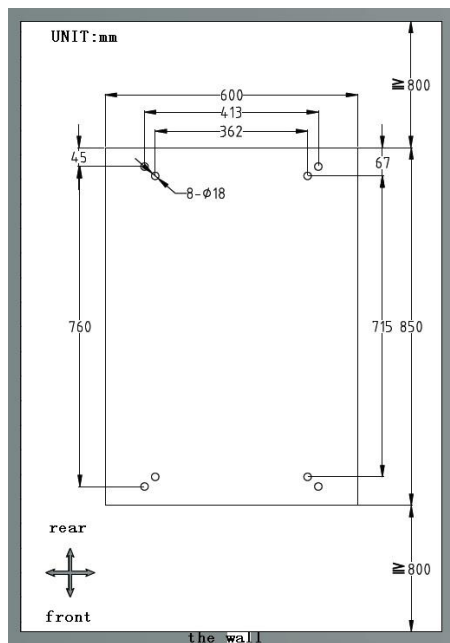
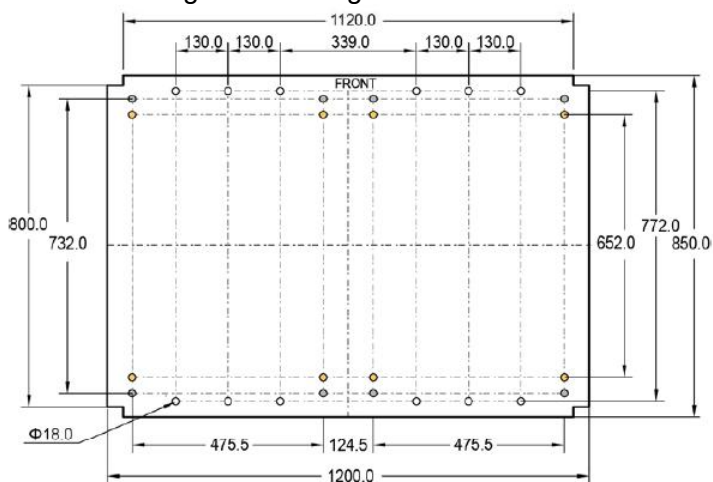
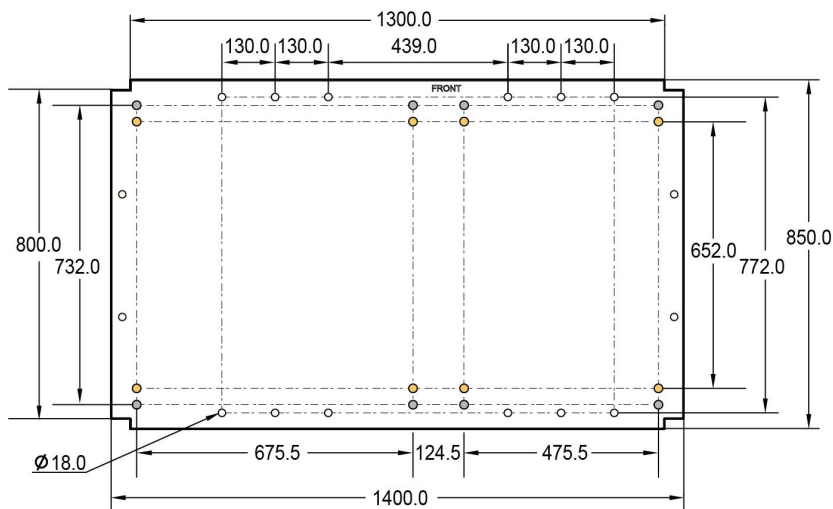

Fig. 2-9 Marking for 200kVA and 300kVA
Fig. 2-10 Marking for 400kVA and 500kVA
Fig. 2-11 Marking for 600kVA
Step 1: Define the installation location of the cabinet (installed on ground and channel steel) according to the location of the cabinet fixing hole on the marking template, and drill the hole, as shown in Fig. 2-9, Fig. 2-10 and Fig. 2-11.